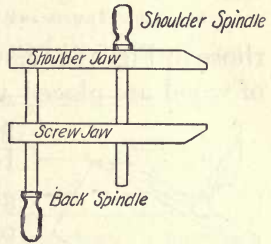
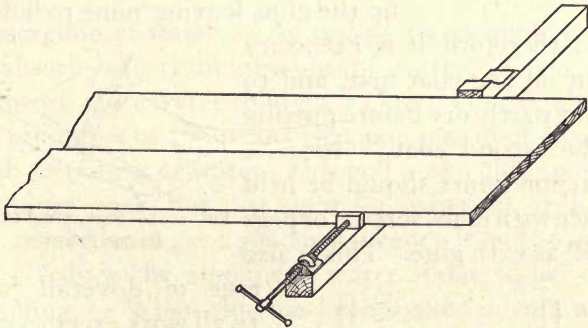
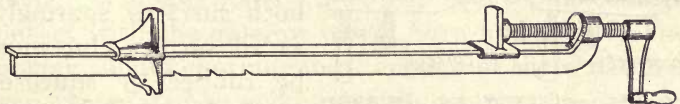
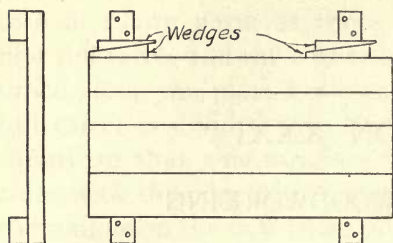

FIG. 156.—WOODEN CLAMP.
FIG. 157.—LONG WOODEN CLAMP.
FIG. 158.—IRON CLAMP.
FIG. 159.—TEMPORARY CLAMPS.
**Gluing up work.** — In gluing up work it is necessary to have a number of suitable wooden clamps, as shown in Fig. 156, and a long wooden clamp, as in Fig. 157, or iron clamp, as in Fig. 158. In case there are not enough of the long clamps for the work, temporary clamps can be made like those in Fig. 159. For small joint work, iron carriage clamps, like